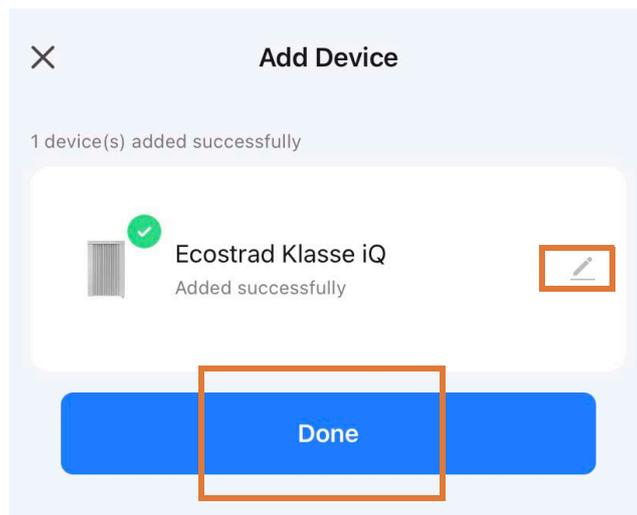

Figure 16 | Finishing connection process
- The radiator will begin connecting. When it is successfully added, it will appear on the app as in **Figure 16**. Press  to change the name of the radiator or "Done" to return to the home screen.